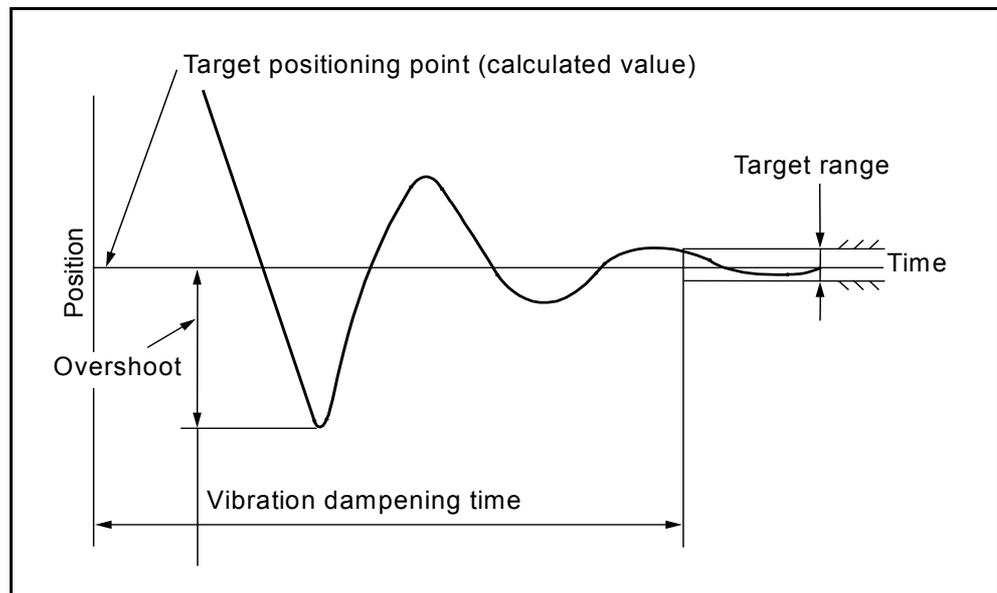

Figure 1-8 Vibration Dampening Time
3. After the robot moves to and passes the target positioning point, vibration will be dampened and the robot positioned at the target positioning point as shown in Figure 1-8. This vibration dampening time is not considered in the graph.
- Caution (1)** The vibration dampening time depends on factors such as the weight of the end-effector. If the robot is to be used in such a way that it overshoots or if the vibration dampening time is of great concern, test the robot carefully beforehand.